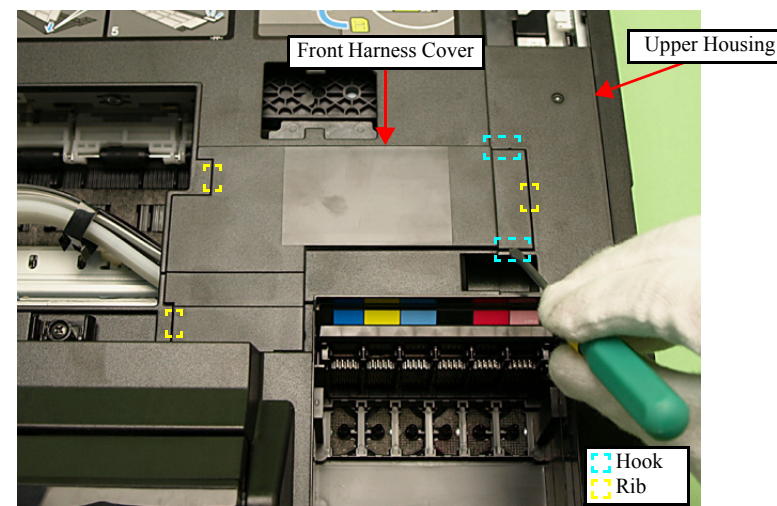

Figure 4-17. Removing the Upper Housing (1)
- When installing the Front Harness Cover, insert the ribs (x3) of the Front Harness Cover to the Upper Housing, and secure them with the hooks (x2). (See Fig. 4-17.)